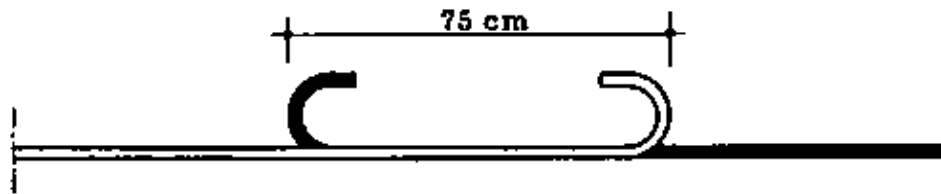

Fig. 4
– NOTE: As a rule, main bars should never be extended. If this is necessary, the shortest overlap for bars under tension is 75 cm, and the ends of the bars must have U-shaped hooks (Fig. 4).